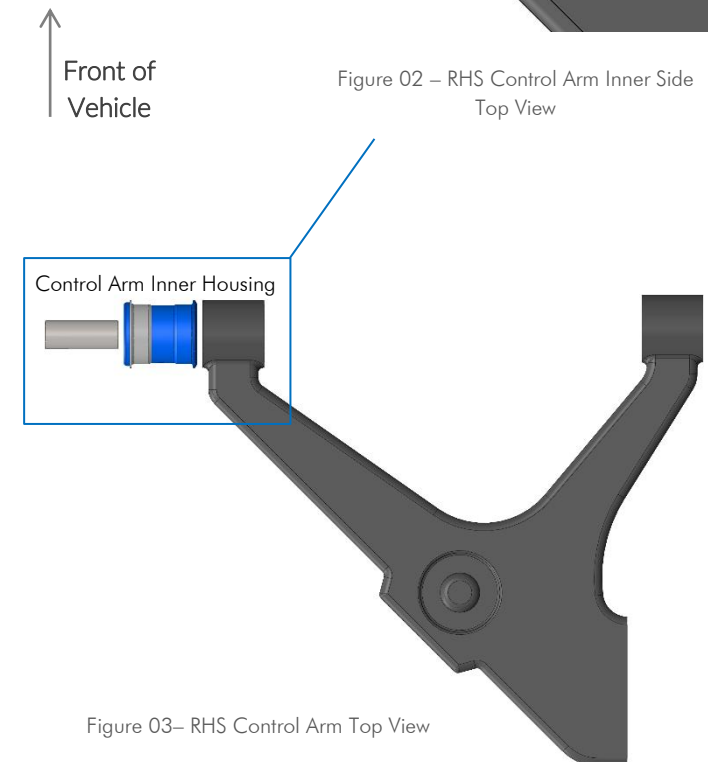

Figure 03– RHS Control Arm Top View
- Apply the white grease supplied to the bore of the bush and outside of the crush tube, and then press the tube in, see Figure 03.